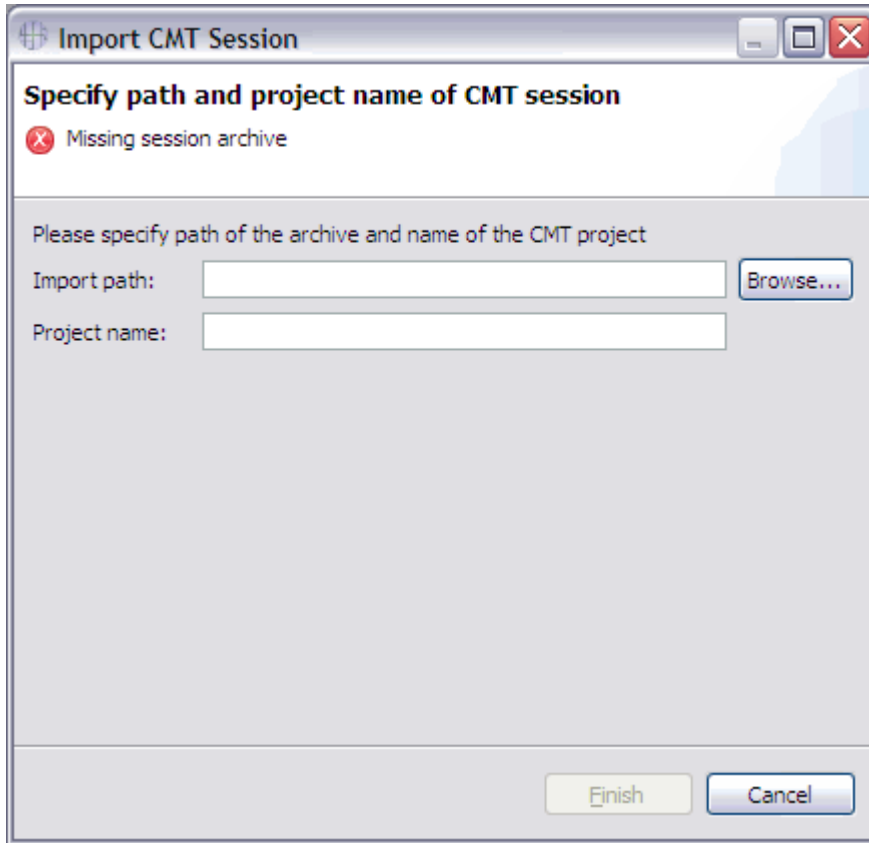

Figure 65. Import CMT Project window
1. Click **File > Import Session**. This tool opens the Import CMT Project window. Figure 65 on page 50 shows this window.